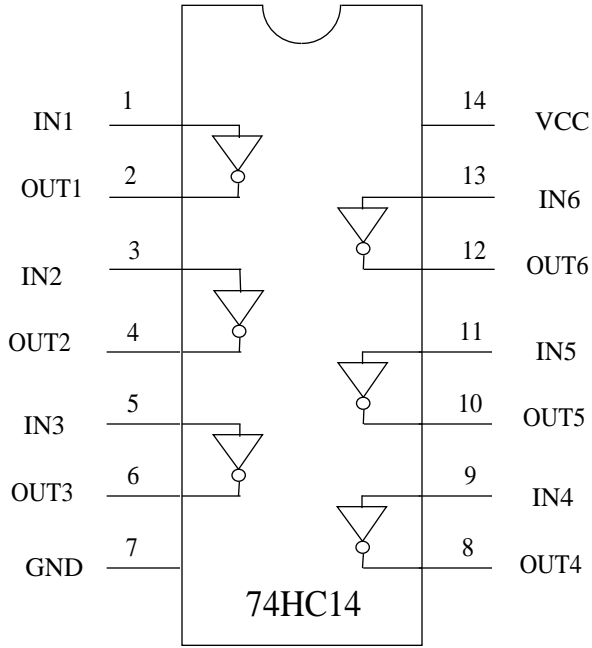

Figure 2: pin assignments for the 74HC14 inverter chip.
- (4-2) Following your design from Pre-Lab Exercise 4-1, construct the clock using the 74HC14 inverter chip obtained earlier. Figure 2 shows the pin assignments for the inverter chip. Use any two of the inverters in the chip, and leave the others unconnected. *Do not forget to connect 5 V to  $V_{CC}$  and ground to the inverter chip at the marked terminals!* Do not yet connect the clock output  $v_{CLK}$  to the clock input of the counter. Rather, use one channel of the oscilloscope to observe the oscillator output  $v_{OSC}$ , and trigger the oscilloscope from that channel. Use the other channel to observe  $v_{CAP}$  and the clock output  $v_{CLK}$ . Compare what you observe with the oscilloscope to the graph prepared during Pre-Lab Exercise 4-2 to determine whether or not the clock is functioning properly. In particular, the clock output  $v_{CLK}$  should remain between 0 V and 5 V so as not to damage the counter which it drives.